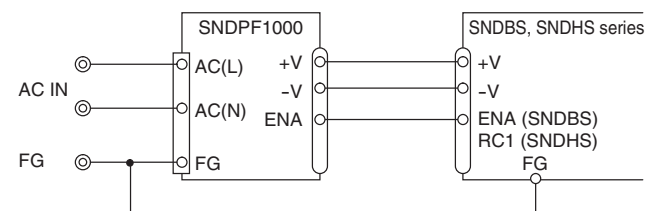

Fig.3.1 Standard connection method
■ To use SNDPF1000, connection shown in Fig.3.1 and outside attached components are required. Through this connection, DC output voltage can be obtained from AC input voltage. AC input voltage and DC output voltage are not insulated.
- For connecting the SNDBS/SNDHS series, see Fig.3.1.